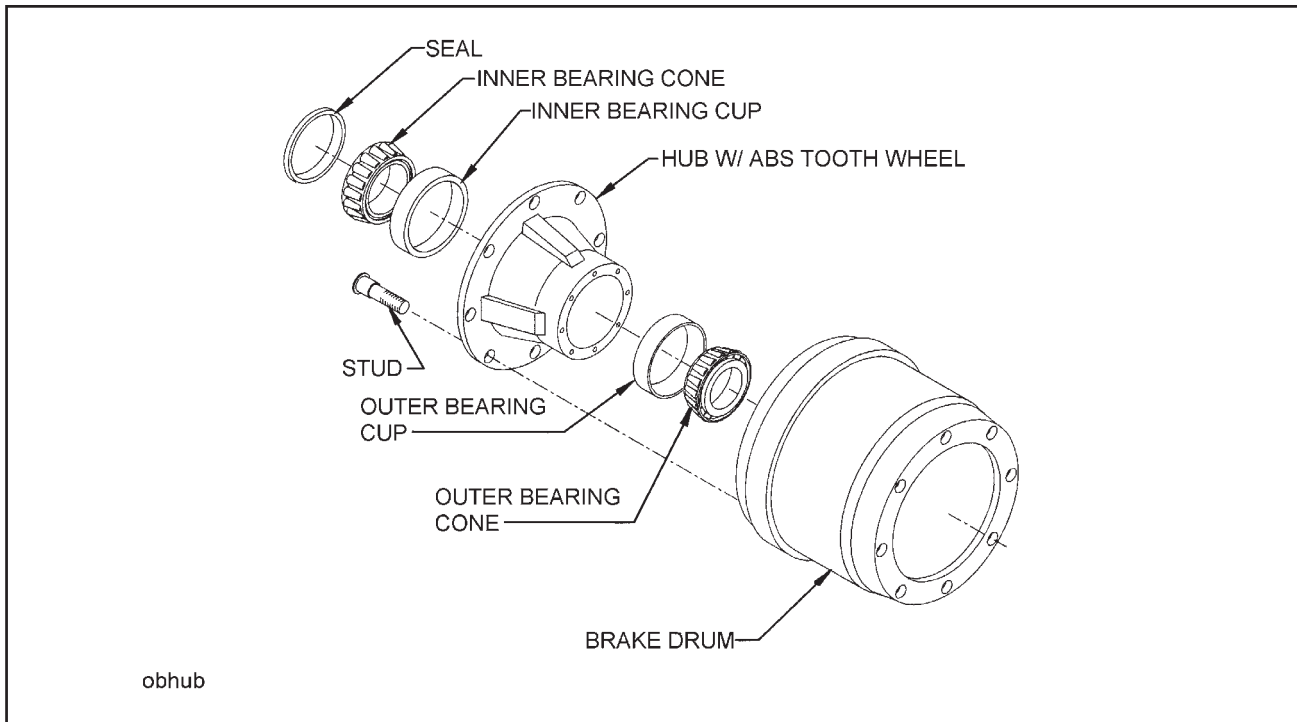

Figure 4-15 Outboard Mount Hub and Drum
3. Remove drum assembly (**See Figure 4-15**).
4-9.4 Replace the hub and drum as follows (See Figure 4-15):
- a. Remove the brake drum (See Figure 4-15). It may be necessary to release the slack adjuster.
- i. Place the drum over the hub and brake shoes being careful not to damage the threads on the studs (**See Figure 4-15**). Make sure the drum seats flat against the hub flange and mates properly with the hub pilot. There should be no interference between the brake drum pilot chamfer and the corner radius on the hub. If interference exists, the hub will not be able to function properly.